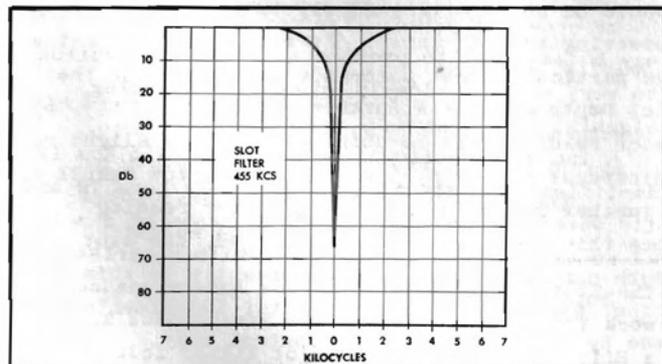

Figure 7. Slot Filter Response Curve
*** The Slot Frequency control provides an extremely sharp adjustable slot or hole in the selectivity curve (See Figure 7). It is normally located outside of the passband of the 455 Kcs IF Amplifier system. It is brought into the passband for the purpose of eliminating interference from heterodyne signals on AM and monkey chatter on SSB. On CW Reception, the Slot Filter
C20, and C21) form a tuned circuit which presents a very high impedance to signals passing through at the resonant frequency (See Figure 7). Resistive balance is controlled by the Slot Depth potentiometer R21.